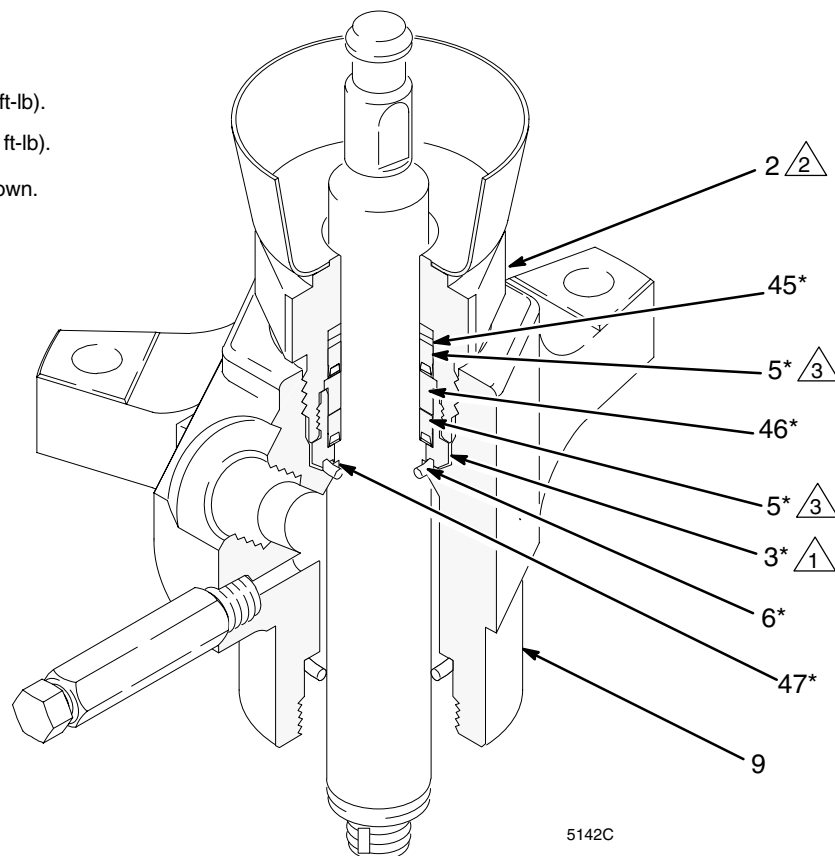

Fig. 3
2. See Fig. 3. Unscrew the packing nut (2) using a pipe wrench. Remove the o-ring (6) and washer (47) from the bottom of the packing housing (3) or from the outlet housing (9).
3. Place the flats of the packing nut (2) in a vise. Unscrew the packing housing (3) and discard it and the packings. Remove the washer (46), seal (5), and backup washer (45) from the packing nut.
4. The throat repair kit is preassembled. Screw the kit into the packing nut (2), making sure that the backup washer (45*), seal (5*), and washer (46*) are properly positioned on top of the packing housing (3*), with the lips of the seal facing down. Torque the packing housing (3*) to 305 ± 14 N.m (225 ± 10 ft-lb). See Fig. 3.
7. Screw the packing nut (2) into the outlet housing (9). Torque to 203 ± 41 N.m (150 ± 30 ft-lb).
- △2 Throat packings (see Fig. 3).